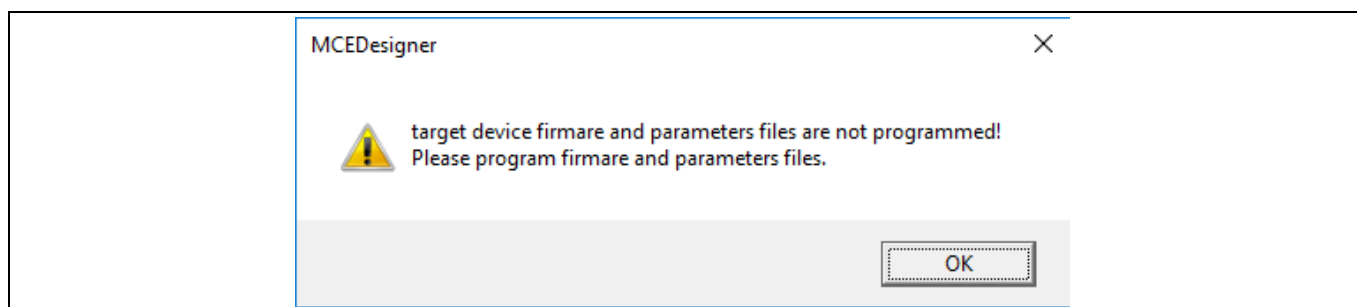

Figure 7 MCEDesigner warning message
8. In case of a blank IC: If the firmware has been erased from the IMC101T, a warning message will pop up (see Figure 7) "Target device firmware and parameters files are not programmed! Please program firmware and parameters file." See step 9 on how to obtain/program firmware and parameters.